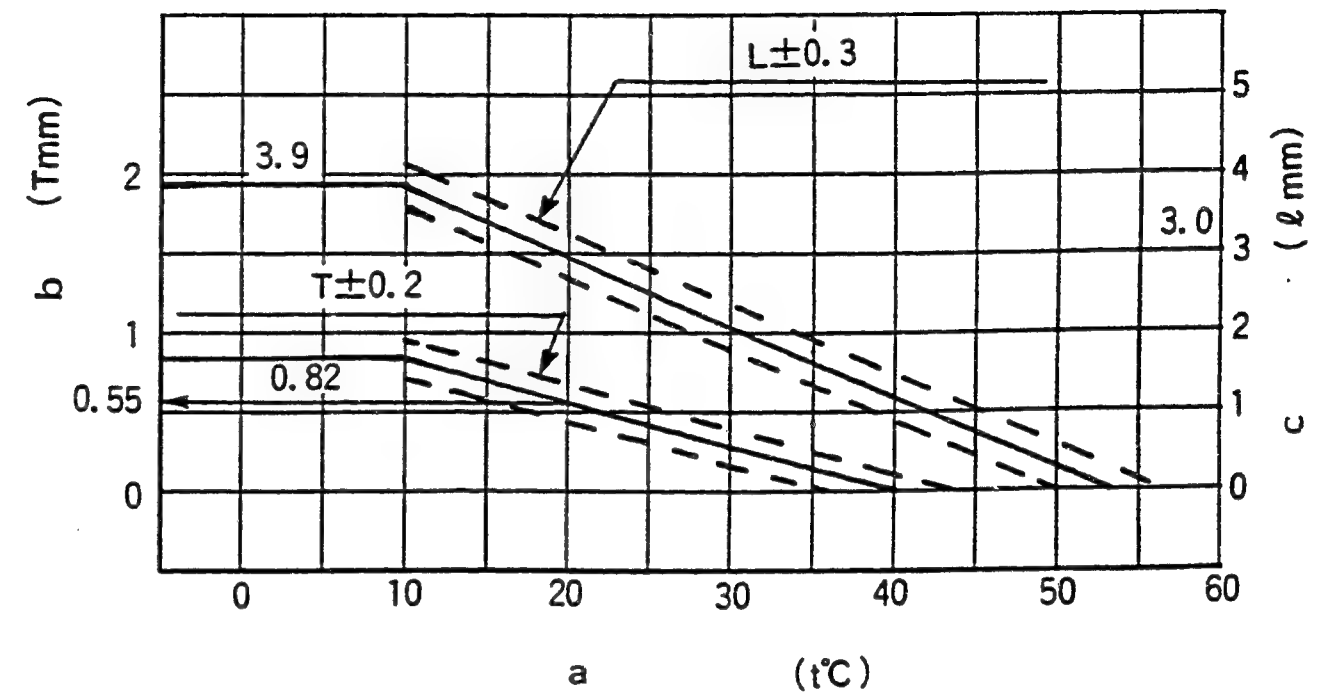

Figure 9
1) Calculate the timer stroke from Fig. 9 according to the atmospheric temperature at the time of adjustment.
2) Adjust using the timer stroke adjusting screw so that the timer stroke is as calculated in Fig. 9 (diagram).
- 1) Calculate the block gauge dimension $l \pm 0.05$ mm from (Fig. 9) according to the atmospheric temperature at the time of adjustment.